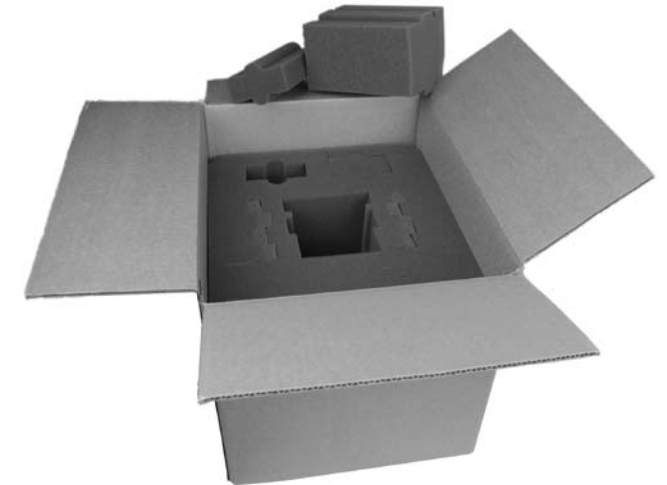

Figure B-6 — Removing screw clamp area foam
8. **If you will not install a replacement Cable Cubby in this location,** remove and retain one of the small foam sections to the front or rear of the cubby opening in the cushion in the carton (figure B-6).